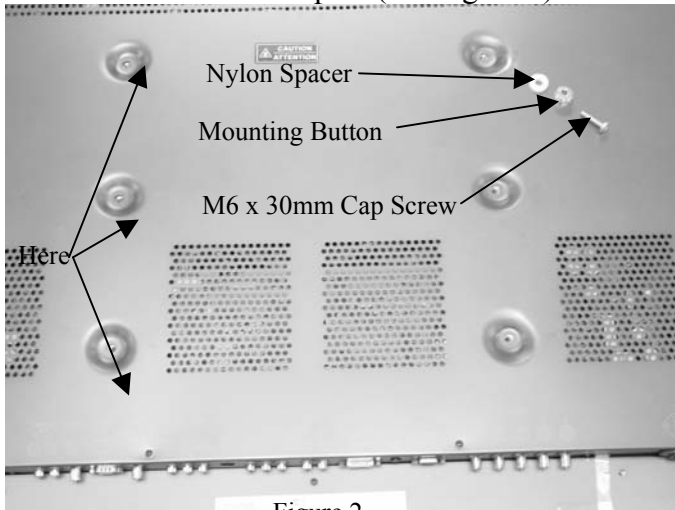

Figure 2
1. Attach six Nylon spacers and mounting buttons to display using six M6 x 30mm button head screws provided (see Figure 2).